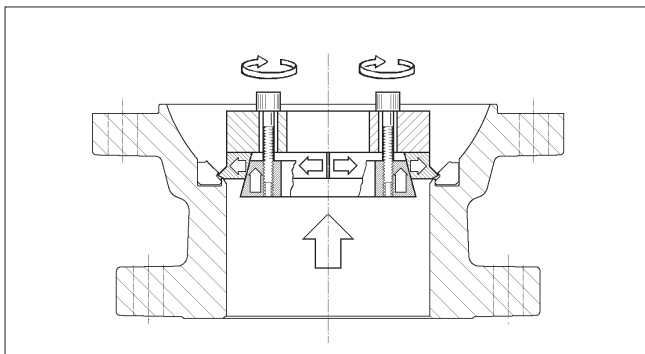

Fig. 16 Removing a locked seat
- Remove the seat (7, 25) from the body cap making sure that it is not damaged during the operation. If the seat is a locked type, use a special tool which can be ordered from the manufacturer. See Figure 16 and Section 8 'Tools'.